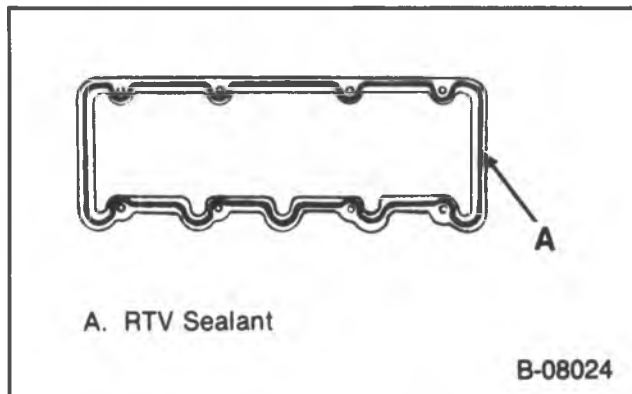

Figure 4 — Applying Sealant to the Rocker Arm Cover
**Install or Connect (Figure 4)**
- Apply a 5 mm (3/16-inch) bead of RTV sealant (GM part number 1052915 or equivalent) to the cylinder head, inboard of the bolt holes. Refer to figure 4. The sealant must be wet to the touch when the bolts are torqued.
Install or Connect (Figure 4)